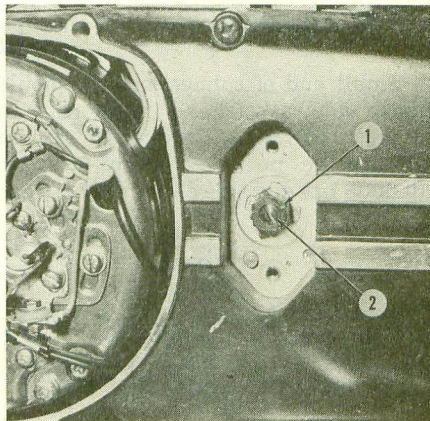
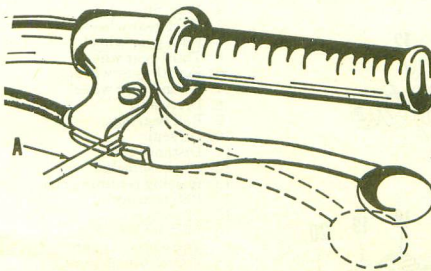

Fig. Y11-8—Clutch adjustment point on left side of engine.
Fig. Y11-9—Adjust clutch cable to obtain 2-3mm free play at (A).
**CLUTCH CONTROLS.** To adjust clutch, remove the small cover on left side of engine case. Loosen lock nut (1—Fig. Y11-8) and turn screw (2) in until it seats lightly. Back screw out  $\frac{1}{4}$  turn and tighten lock nut. The clutch lever should be adjusted to provide  $\frac{1}{16}$ – $\frac{1}{8}$  inch free play. Refer to Fig. Y11-9.